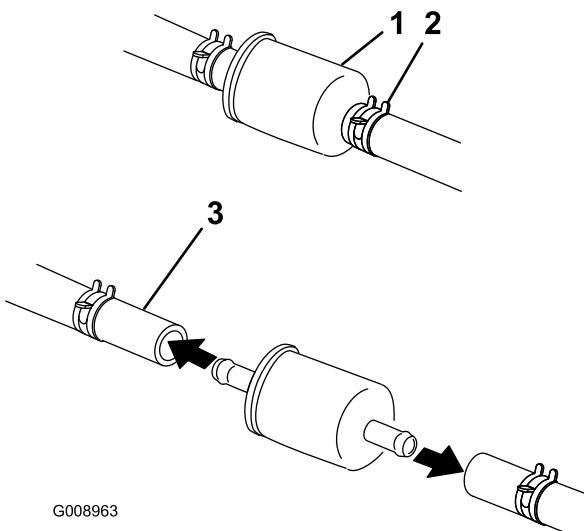

Figure 39
4. Close the fuel-shutoff valve under the seat (Figure 39).
5. Squeeze the ends of the hose clamps together and slide them away from the filter (Figure 39).
7. Install a new filter and move the hose clamps close to the filter (Figure 39).